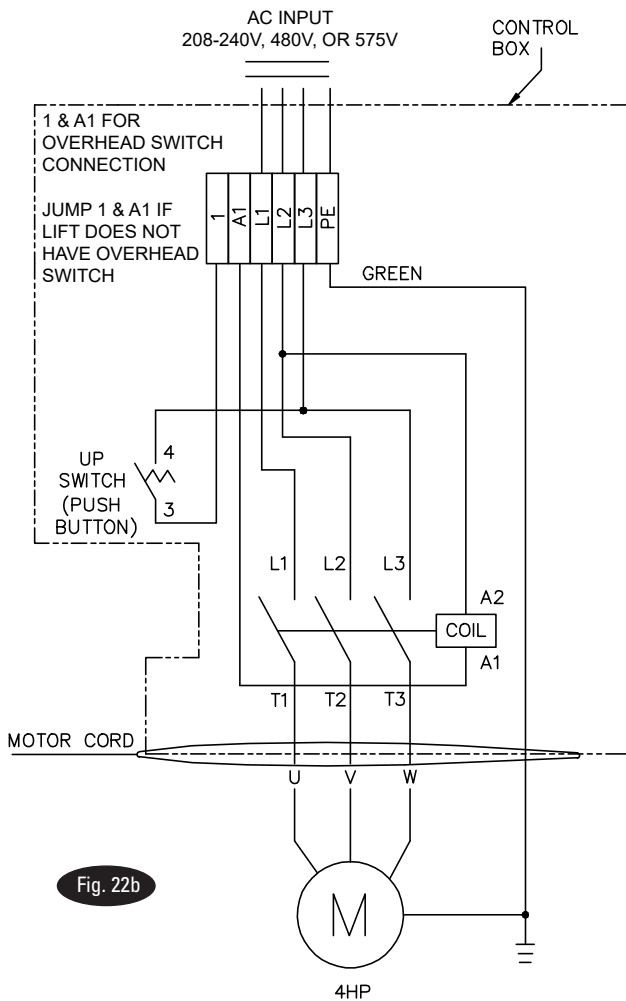

Fig. 22b
IMPORTANT: Use separate circuit for each power unit. Protect each circuit with time delay fuse or circuit breaker. For single phase 208-230V, use 20 amp fuse. Three phase 208-240V, use 20 amp fuse. For three phase 400V (*E Model) and above, use 10 amp fuse. For three phase 380V (*S Model) use 16 amp fuse. For wiring see Fig. 21, Fig. 22, and Fig.22b. All wiring must comply with NEC and all local electrical codes.
16. Overhead switch: Check overhead switch assembly to assure that switch bar is depressing switch plunger sufficiently to actuate the switch. The overhead switch is wired normally open, see Fig. 21, Fig. 22, and Fig. 22b. Lift will not operate until weight of switch bar is depressing switch plunger. Verify that Power Unit stops working when switch bar is raised, and re-starts when the bar is released.